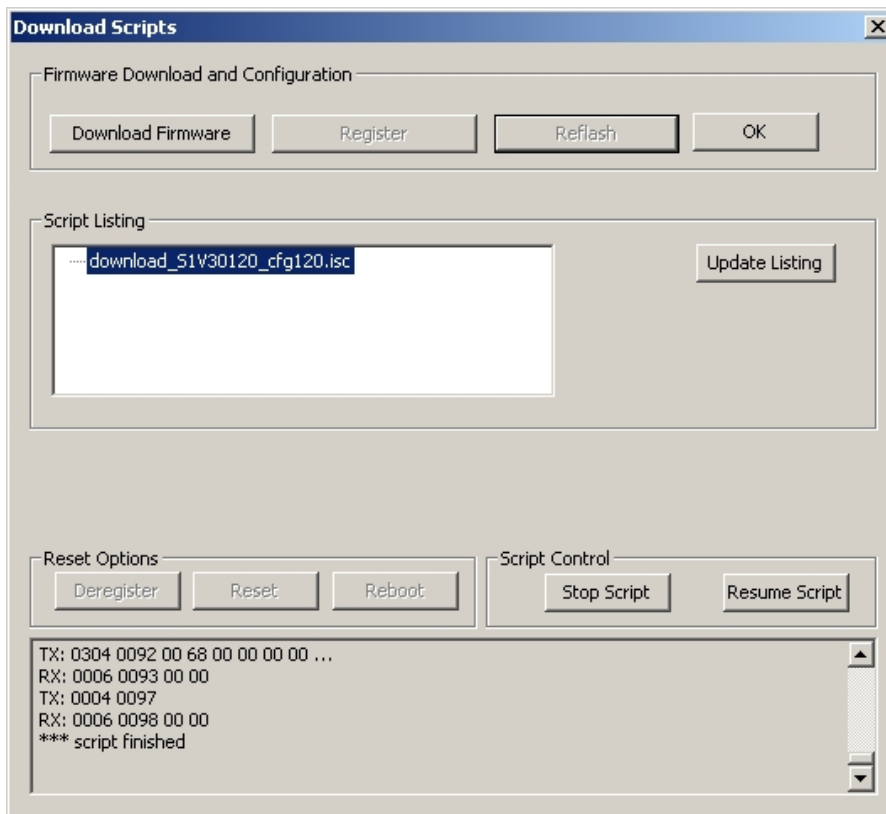

Figure 6 S1V30120 Download Scripts Window, Step 2
1. The Download Scripts window will show the S1V30120 download script in the Script Listing window, and the Download Scripts button will be available. The window will look like Figure 6.